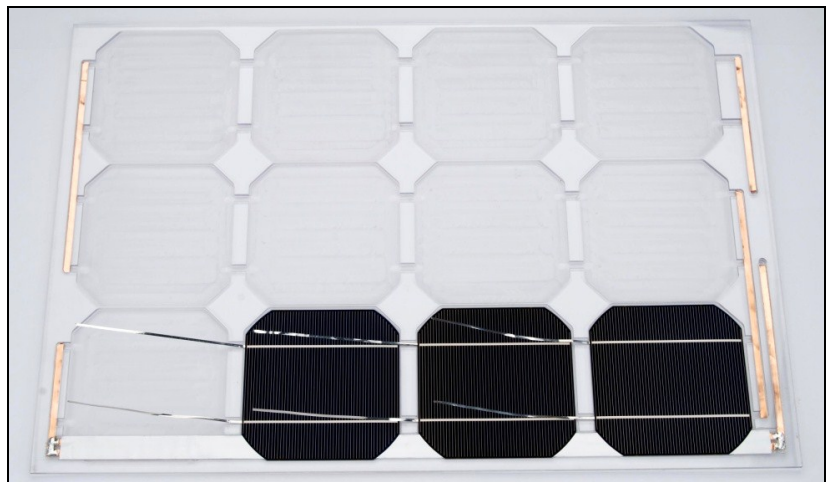

Figure 25
- ✓ Slightly bend the tabbing wires up and out of the way (they will eventually be soldered across the tops of the adjacent cells). See Figure 25. **Be careful** to not stress the cell as you bend the wires gently upward.